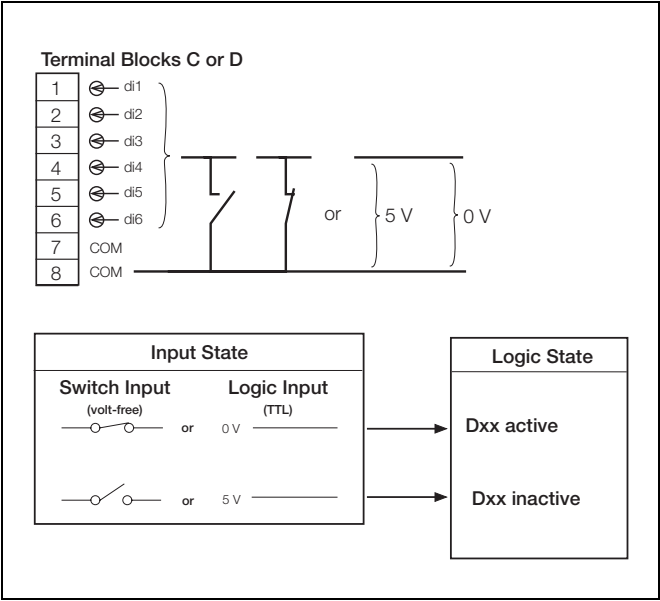

Fig. 5.13 Digital Input Connections
5.8.2 Digital Input Connections – Fig. 5.13